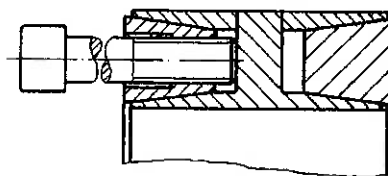

Fig. 7
- 2.1 The front thrust ring is released by having the jack screws pressed against the web of the inner ring (see Fig. 7).